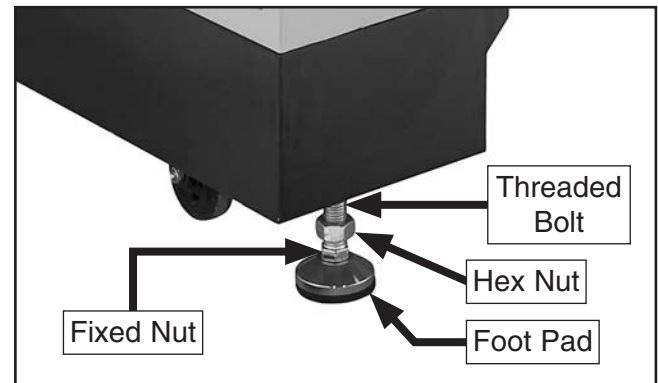

Figure 15. Adjustable foot components.
2. Loosen hex nut on each adjustable foot threaded bolt, then rotate fixed nut until measured axis is level (see **Figure 15**).